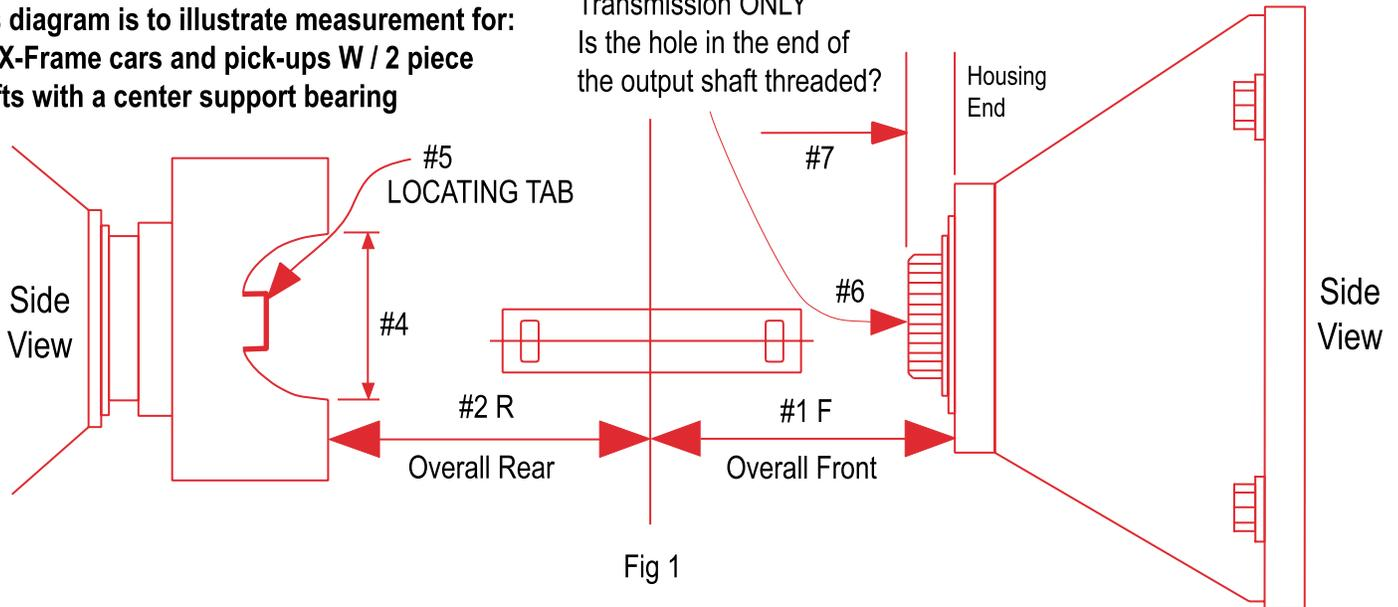

Fig 1
- #1 What is the overall measurement from the end of the trans case to the center _____ Inches of the support bearing mount as shown in Fig 1